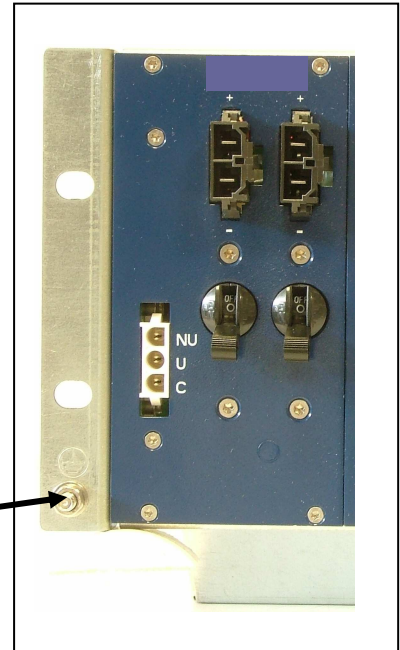

Figure 15 : Grounding
- terminal : M5 cable terminal which can be fixed on the left side of the rack , see figure 15 .